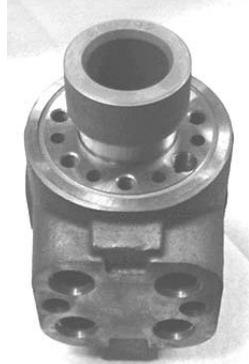

Figure 8
17. Push spool partially from control end of sleeve, then carefully remove centering springs and retaining ring from spool by hand (figure 8).
4. Insert sleeve into housing bore (Figure 8)